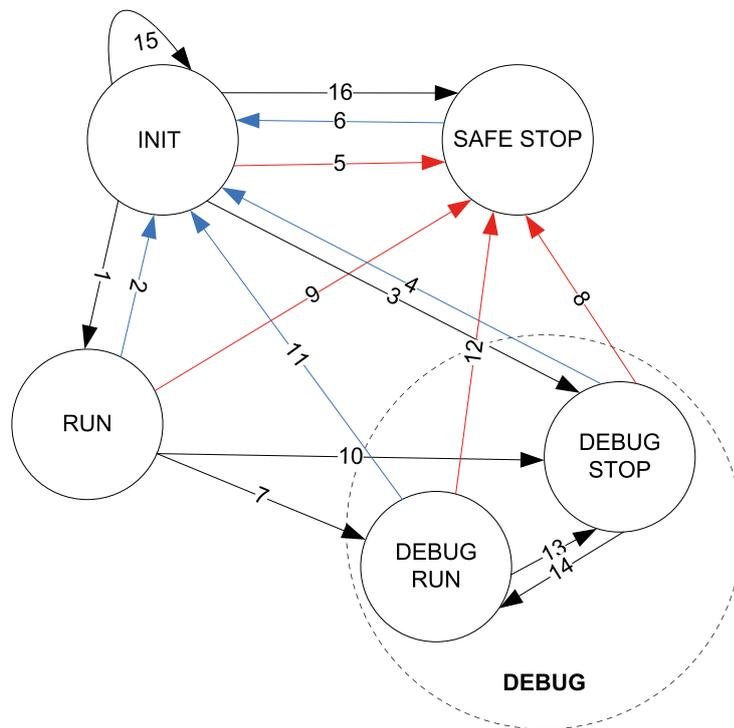

Fig. 11: SM560-S Safety CPU module states and transitions
Fig. 11 provides an overview on possible SM560-S Safety CPU states and transitions between them.
SM560-S module states defined in Fig. 11 are further explained in Chapter 3.1.5.1 “Description of SM560-S module states” on page 46 and Chapter 3.1.5.2 “Transitions between SM560-S states” on page 49.
In case of CoDeSys online commands "Step in", "Step over", "Single cycle" and when the breakpoint is reached, there is a switch between DEBUG RUN and DEBUG STOP states (↻ Fig. 11 transitions 13 and 14).
(14)	DEBUG STOP	DEBUG RUN	<ul style="list-style-type: none">■ CoDeSys Safety online services “Step over”, “Step in” and “Run”■ CoDeSys Non-Safety online service “Run”■ “Run” button on PM5xx Non-safety CPU (Non-safety CPU was in “Stop” state)
(15)	INIT	INIT	Powering off/on or “reboot” PLC Browser command from PM5xx Non-safety CPU
(16)	INIT	SAFE STOP	Switch address 0xFE, 0xFD or 0xFC was set on SM560-S
* Numbers are transitions in  Fig. 11